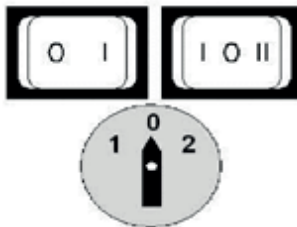

Fig. 1
- Any type of operation, whether cleaning, checking the product to be worked, adjustment, setting up, etc. must always be carried out when the machine is turned off, that is with the switch in position 0 (see Fig. 1) and the plug removed from the electric socket, in order to avoid accidental starting. The machine should be started only when in use.
- Loosen the fixing ring and fit the body (C) into the seat on the motorised body, checking that the motorised body is upright and that the attachment fits right into the seat. Fix the attachment by tightening the fixing ring, firmly, but without forcing it.
- Fit the channelled tip of the worm (E), into the body (C), using the bushing (D) as a guide, (part located inside the body (C)).
- During this stage it is possible to turn the worm (E) slightly in order to fit it more easily into the motorised body.
- Check that the switch on the motorised body is in the position 0 (Fig. 1), then plug in the machine.
- Load the product to be worked into the hopper and press it down using only the presser (L). Never use the hands.
4. Fit the container (R), blocking it using the clasp on the filter and the hopper (T) inserting it onto the upper part of the motorised body.
5. For models with a motorised body with a switch, the tomato crushing attachment must be operated only by turning the switch to position 1 (Fig. 1)